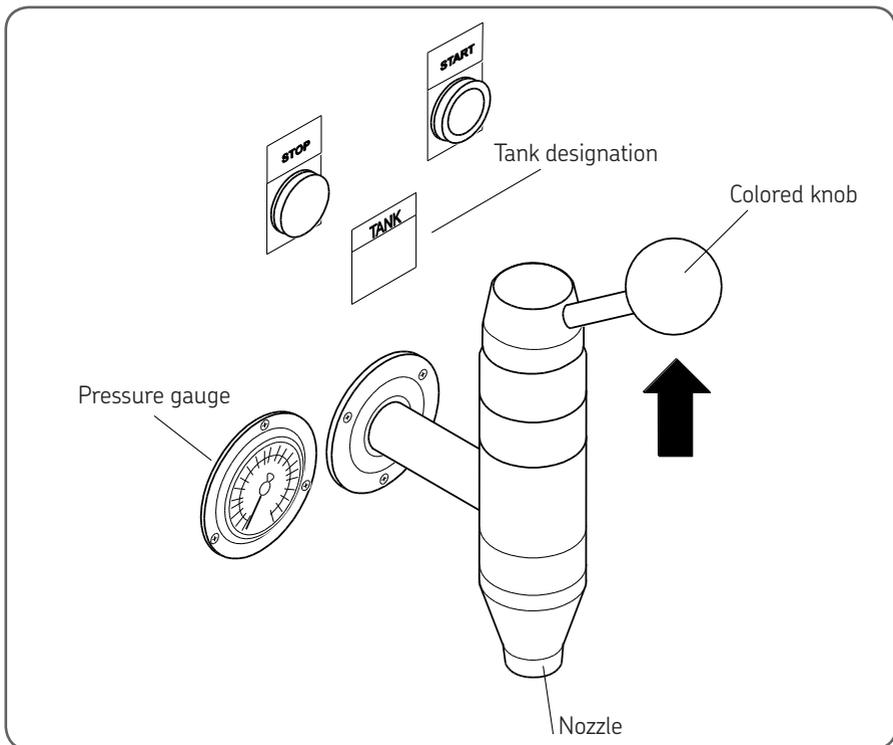

Fig 16 Operating the standard dispensing faucet
3. Lift up on the handle, see figure 16 (standard faucet style illustrated) – or depress handle if brass fire upgrade faucets have been ordered.